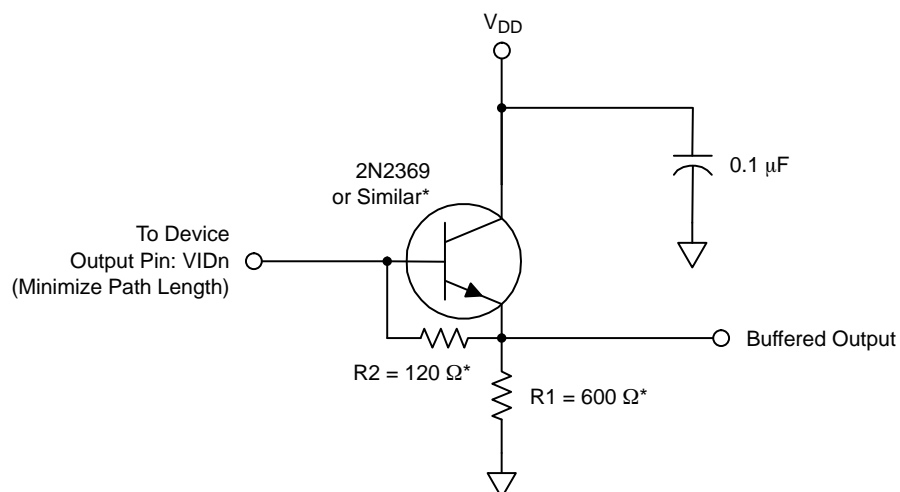

Figure 8. Typical Output Bias/Buffer Circuit
1. A current sink must be supplied for each output. Load capacitance should be minimized so as not to limit bandwidth. See Figure 8. Choose values optimized for specific operating frequency, but R2 should not be less than 75  $\Omega$ .